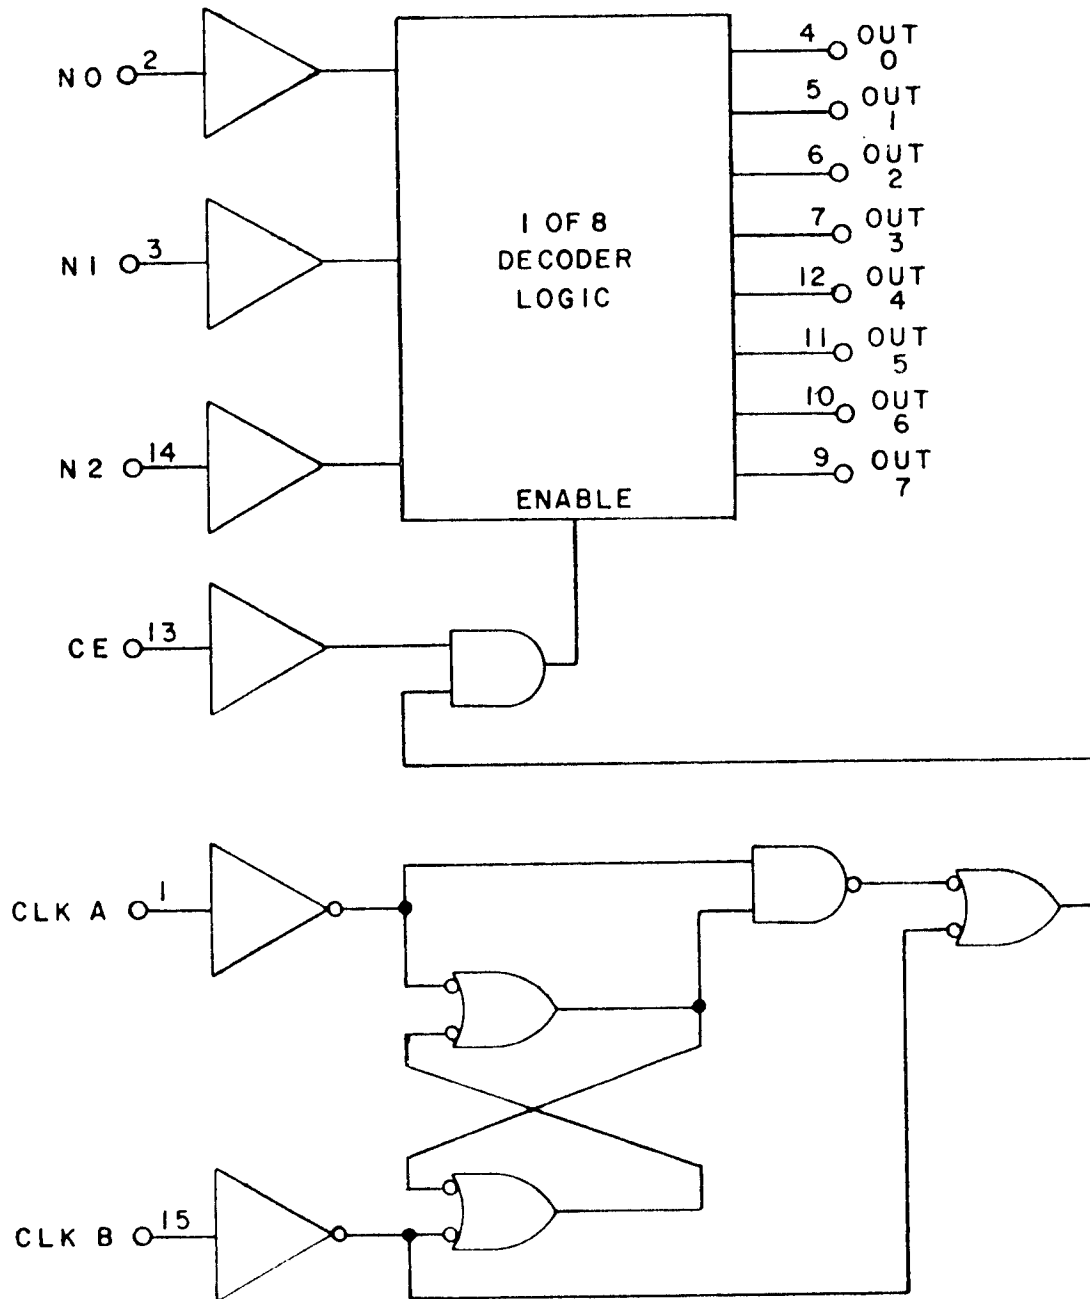

FIGURE 2. Logic diagram.
3.2.2 Logic diagram. The logic diagram shall be as specified on figure 2.
EN = Internal enable signal - see timing diagram below and figure 2.